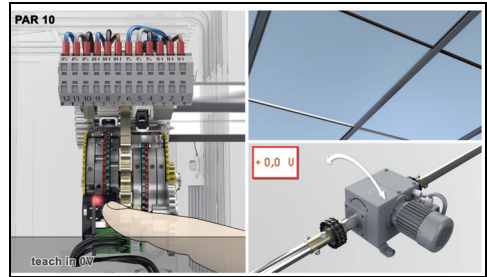

Fig. 26
- ▶ Press the start point button (red) (LED flashes red) until the LED lights up red (see Fig. 26). The start value is accepted and the signal output set to 0 V. (The red LED remains on up to the end of the setting process.)